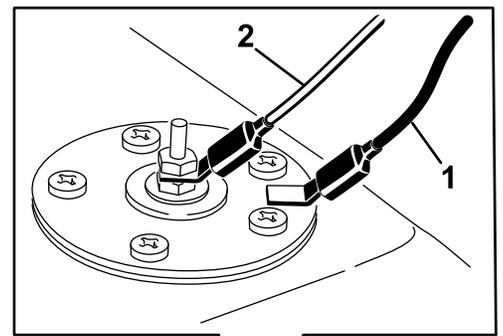

Figure 62
11. Disconnect the 2 wires leading to the right side of the tank (Figure 62).
20. On the right side of the tank, connect the orange wire to the center post and the black wire to the outside post (Figure 62).